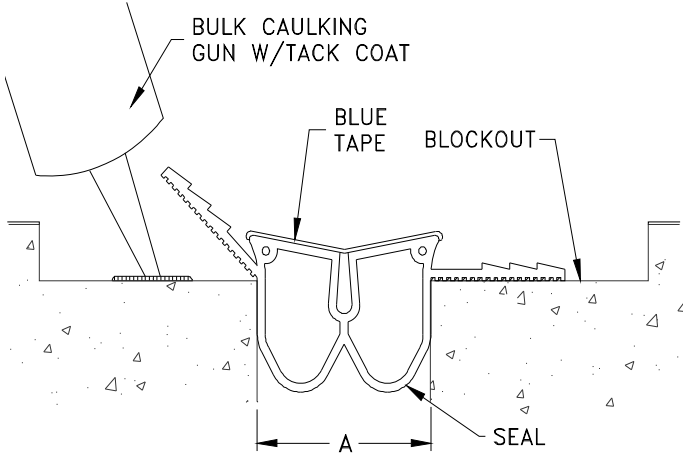

Figure 7
STEP 8. Using a bulk-caulking gun, immediately shoot the Balco Tack Coat - TC12 under the seal's wings (see Figure 7). Place enough liquid so that it rises through the perforations in the wings. Push the wings down, if necessary, into the bonding liquid, then strike off excess material that has risen through the holes. It is important that the wings lie flat in the blockout.